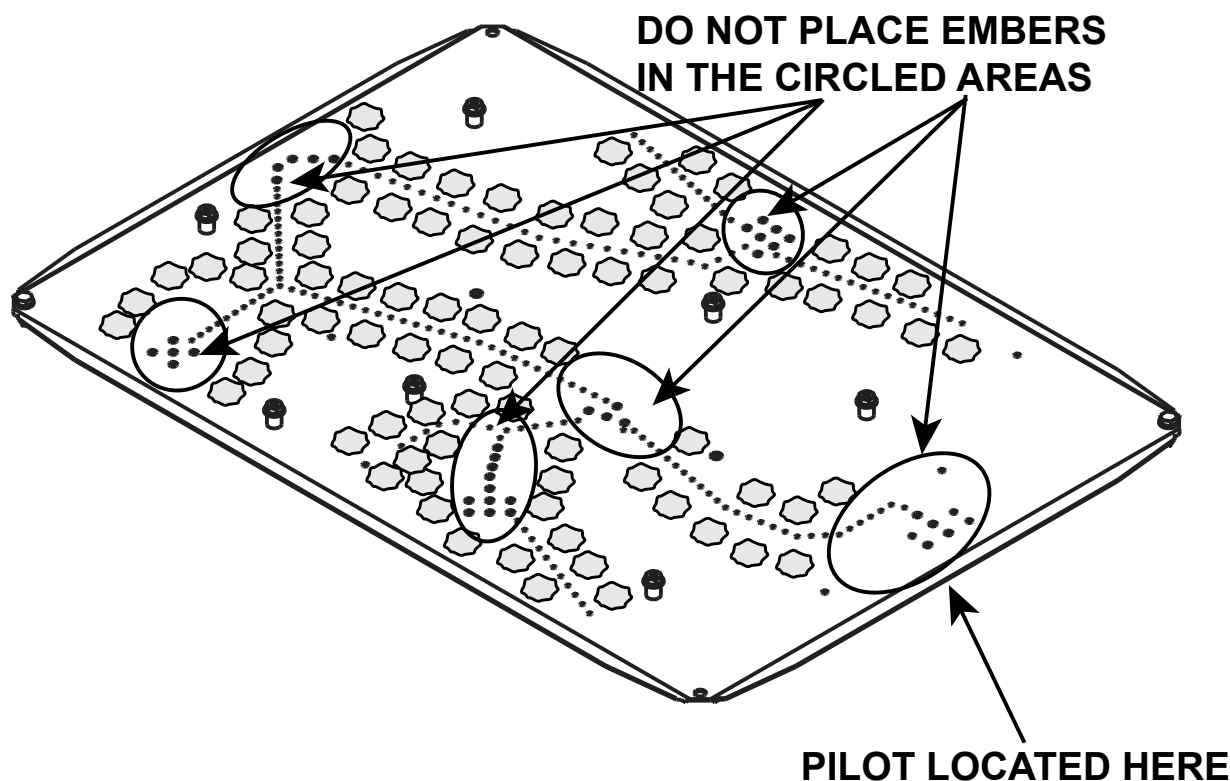

Figure 11.13. Ember Placement
Place glowing embers as shown in Figure 11.13.
- Embers may only be placed in areas as shown in Figure 11.13. Care should be taken not to cover the lighting trail of ports near pilot assembly as shown in Figure 11.13.
- When placing Glowing Embers® onto the burner care should be taken so that the ports are not covered. Place the dime-size ember pieces. See Figure 11.13. Failure to follow this procedure will likely cause lighting and sooting problems.